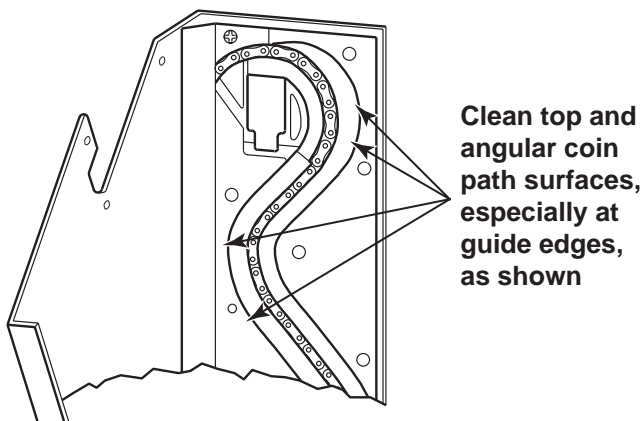

Figure 3-4A. Cleaning the Hopper Coin Path
3. Using the Nylon hopper cleaning brush supplied with each machine, remove all dirt from the angular sides and flat surfaces of the serpentine coin path as shown in *Figure 3-4A*.